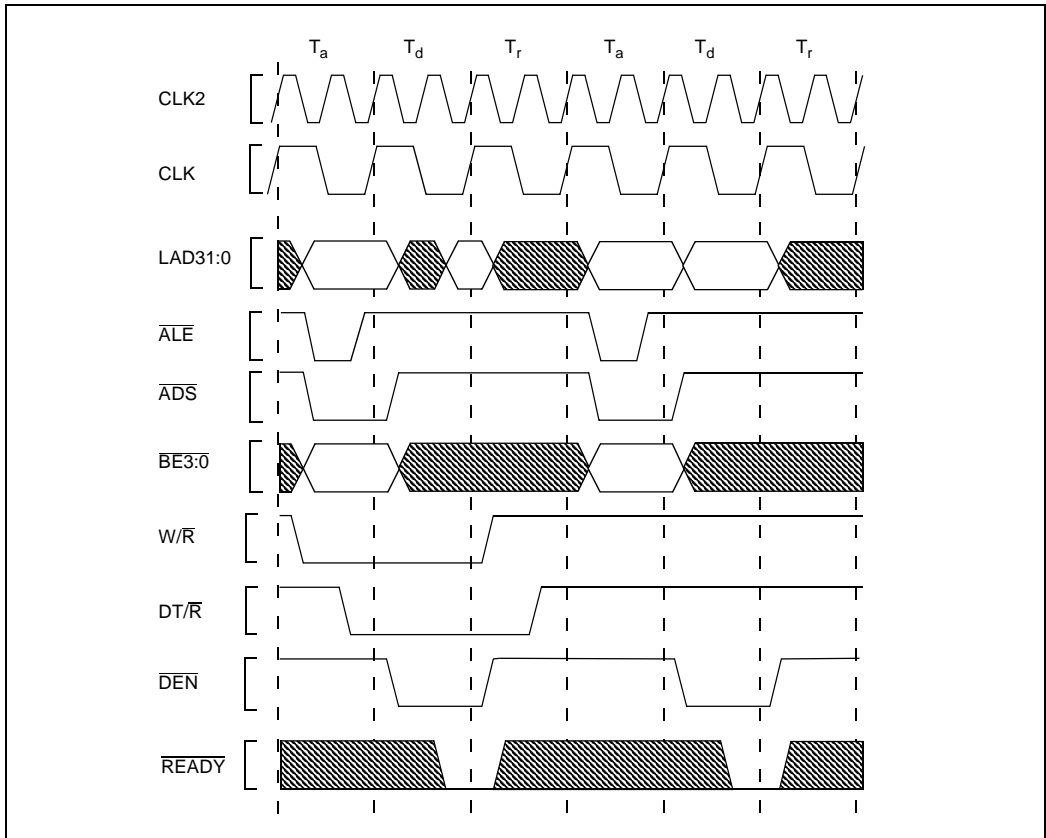
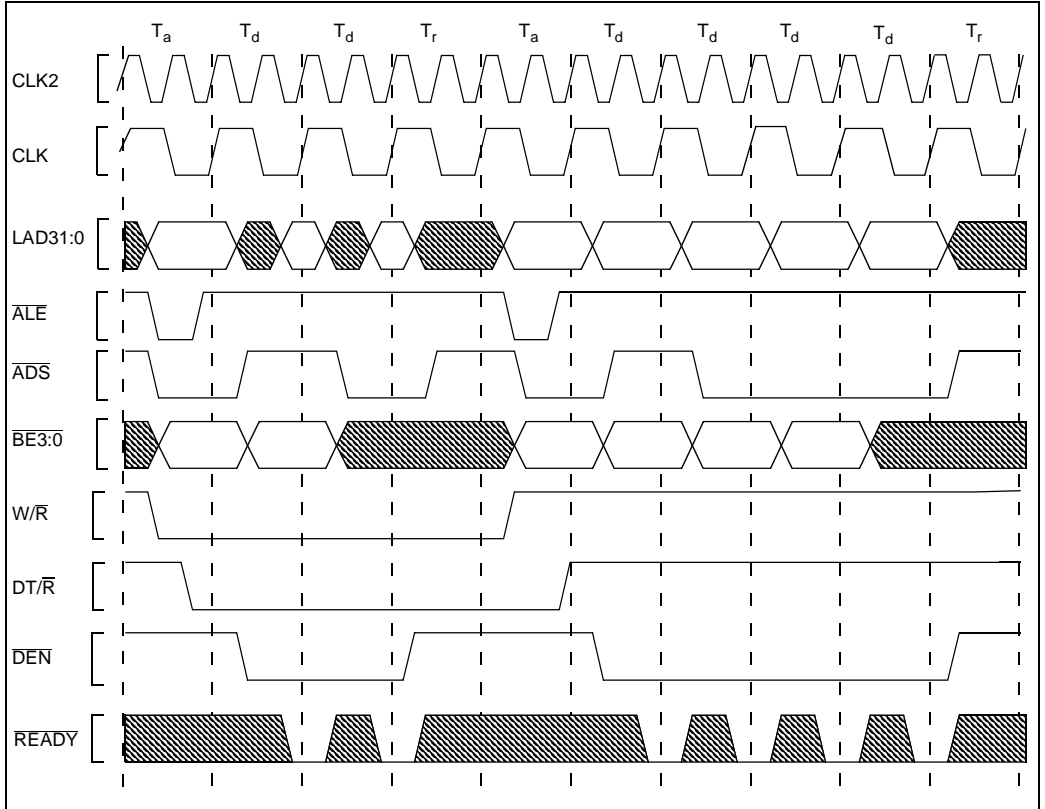
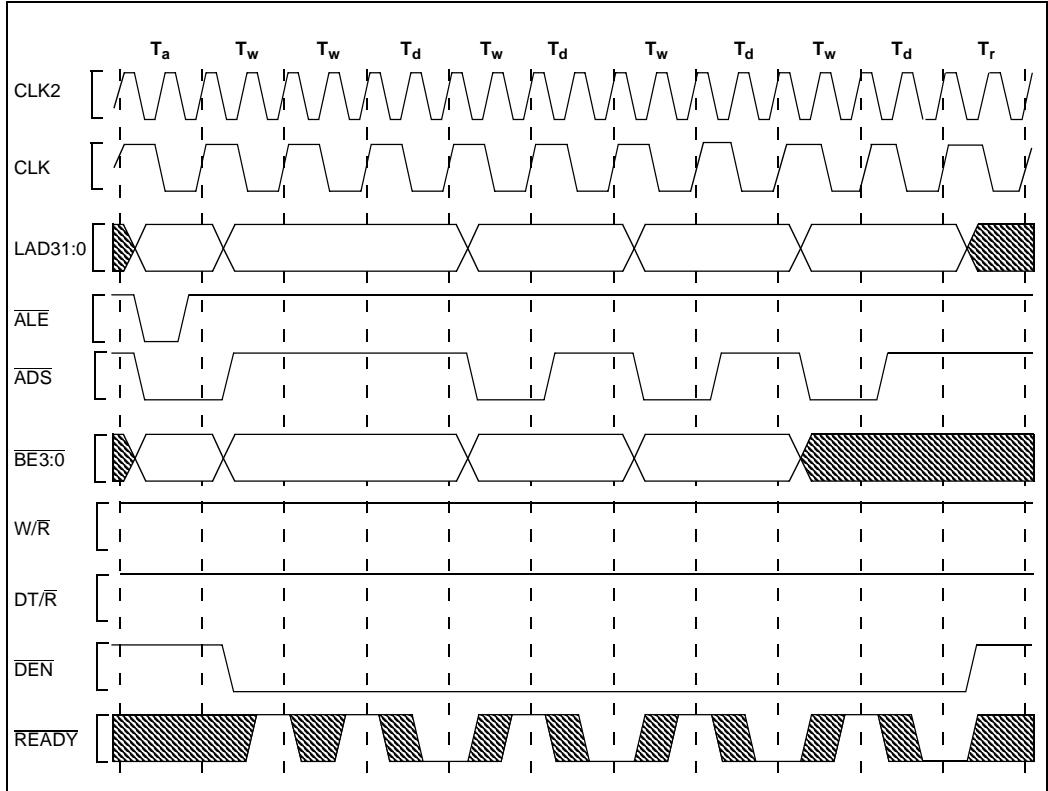

Figure 23. Non-Burst Read and Write Transactions Without Wait States
Figure 24. Burst Read and Write Transaction Without Wait States
Figure 25. Burst Write Transaction with 2, 1, 1, 1 Wait States
Maximum allowable ambient temperature (T_A) permitted without exceeding T_C is shown by the graphs in **Figure 23**, **Figure 24** and **Figure 25**. The curves assume the maximum permitted supply current (I_{CC}) at each speed, V_{CC} of +5.0 V and a T_{CASE} of +85° C (PGA).
- **Figure 23, Non-Burst Read and Write Transactions Without Wait States (pg. 30)**
- **Figure 24, Burst Read and Write Transaction Without Wait States (pg. 31)**
- **Figure 25, Burst Write Transaction with 2, 1, 1, 1 Wait States (pg. 32)**